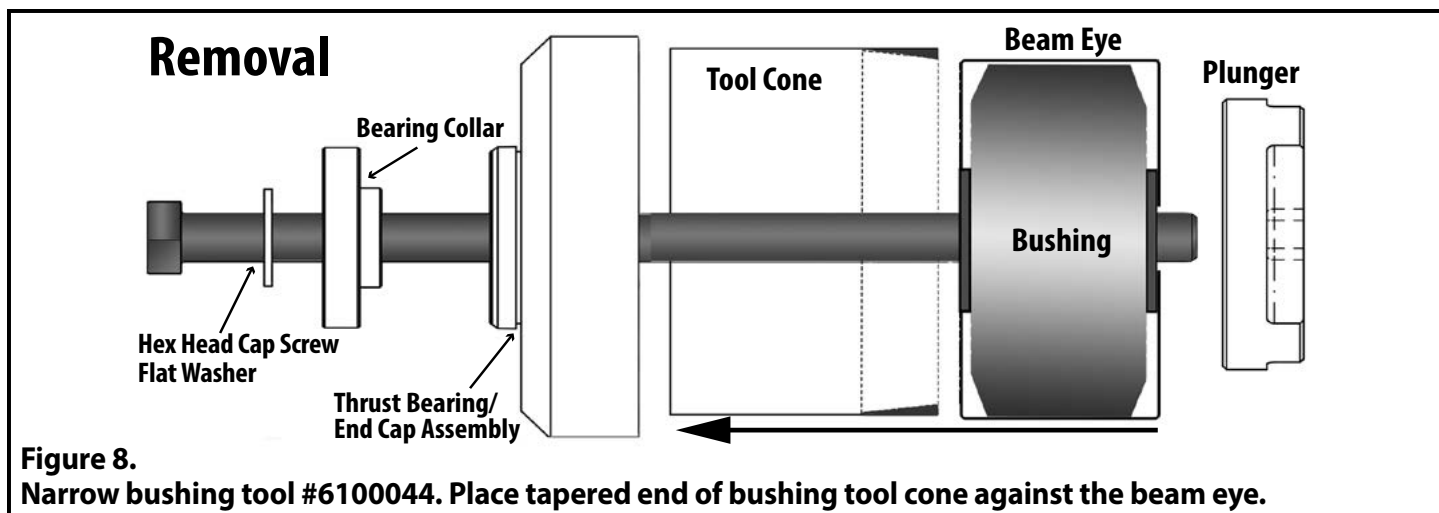

Figure 8.
Thread the flat washer, the bearing collar and the endcap onto the HHCS until the bearing collar and endcap rest against the head of the HHCS. Place tool cone onto endcap (Figure 8).
1. Push the hex-head cap screw through the bushing inner sleeve until the tool cone is against the beam eye. Thread the plunger onto the HHCS until the tool cone is held firmly against the beam (Figure 8).